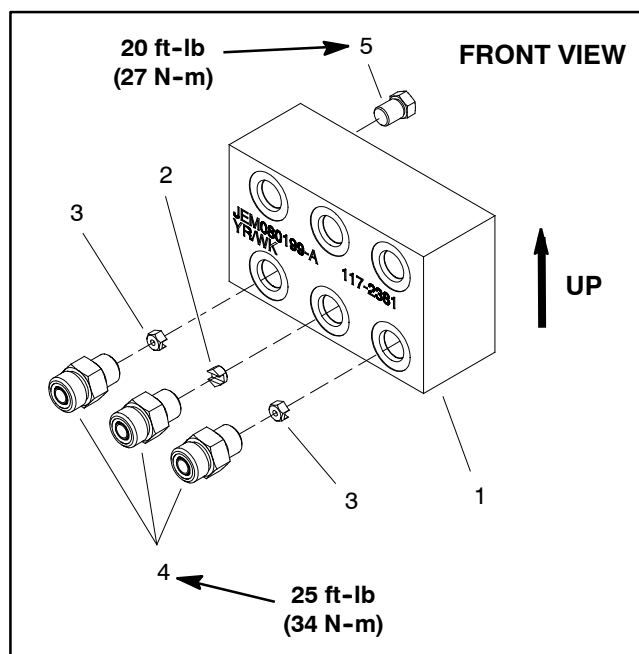

Figure 117
**IMPORTANT:** A flow control orifice is placed beneath several of the hydraulic fittings on the lift circuit junction manifold (Fig. 117). The manifold uses two (2) different orifice sizes. If a fitting is removed from the lift junction manifold and an orifice is in the manifold port, make sure to remove orifice and label its position for assembly purposes. Also note location of groove in orifice for assembly purposes.
6. If necessary, remove fittings from manifold and discard O-rings (Figs. 117 and 118).
1. If fittings were removed from junction manifold, lubricate and place new O-rings onto fittings. Install fittings into manifold openings making sure that orifice is correctly placed before threading fitting into manifold. Tighten fittings (see Hydraulic Fitting Installation in the General Information section of this chapter). Refer to Figures 117 and 118 for fitting installation torque.